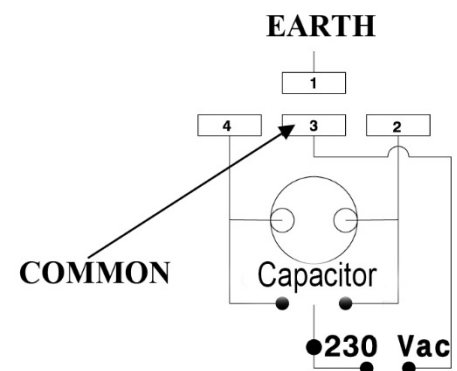

Fig.1
- 2) Fix the pillar support as shown in **(Fig.1 Page 5)** shortening or extending the support according to the dimensions A and B shown in the **(Table 1 Page 4)**. The support should be fixed at a height where the gate has a sufficiently rigid surface to fix the gate support, bearing in mind that the gate support will be fixed **15 mm lower** than the pillar support. **(Fig.1 Page 10)**.